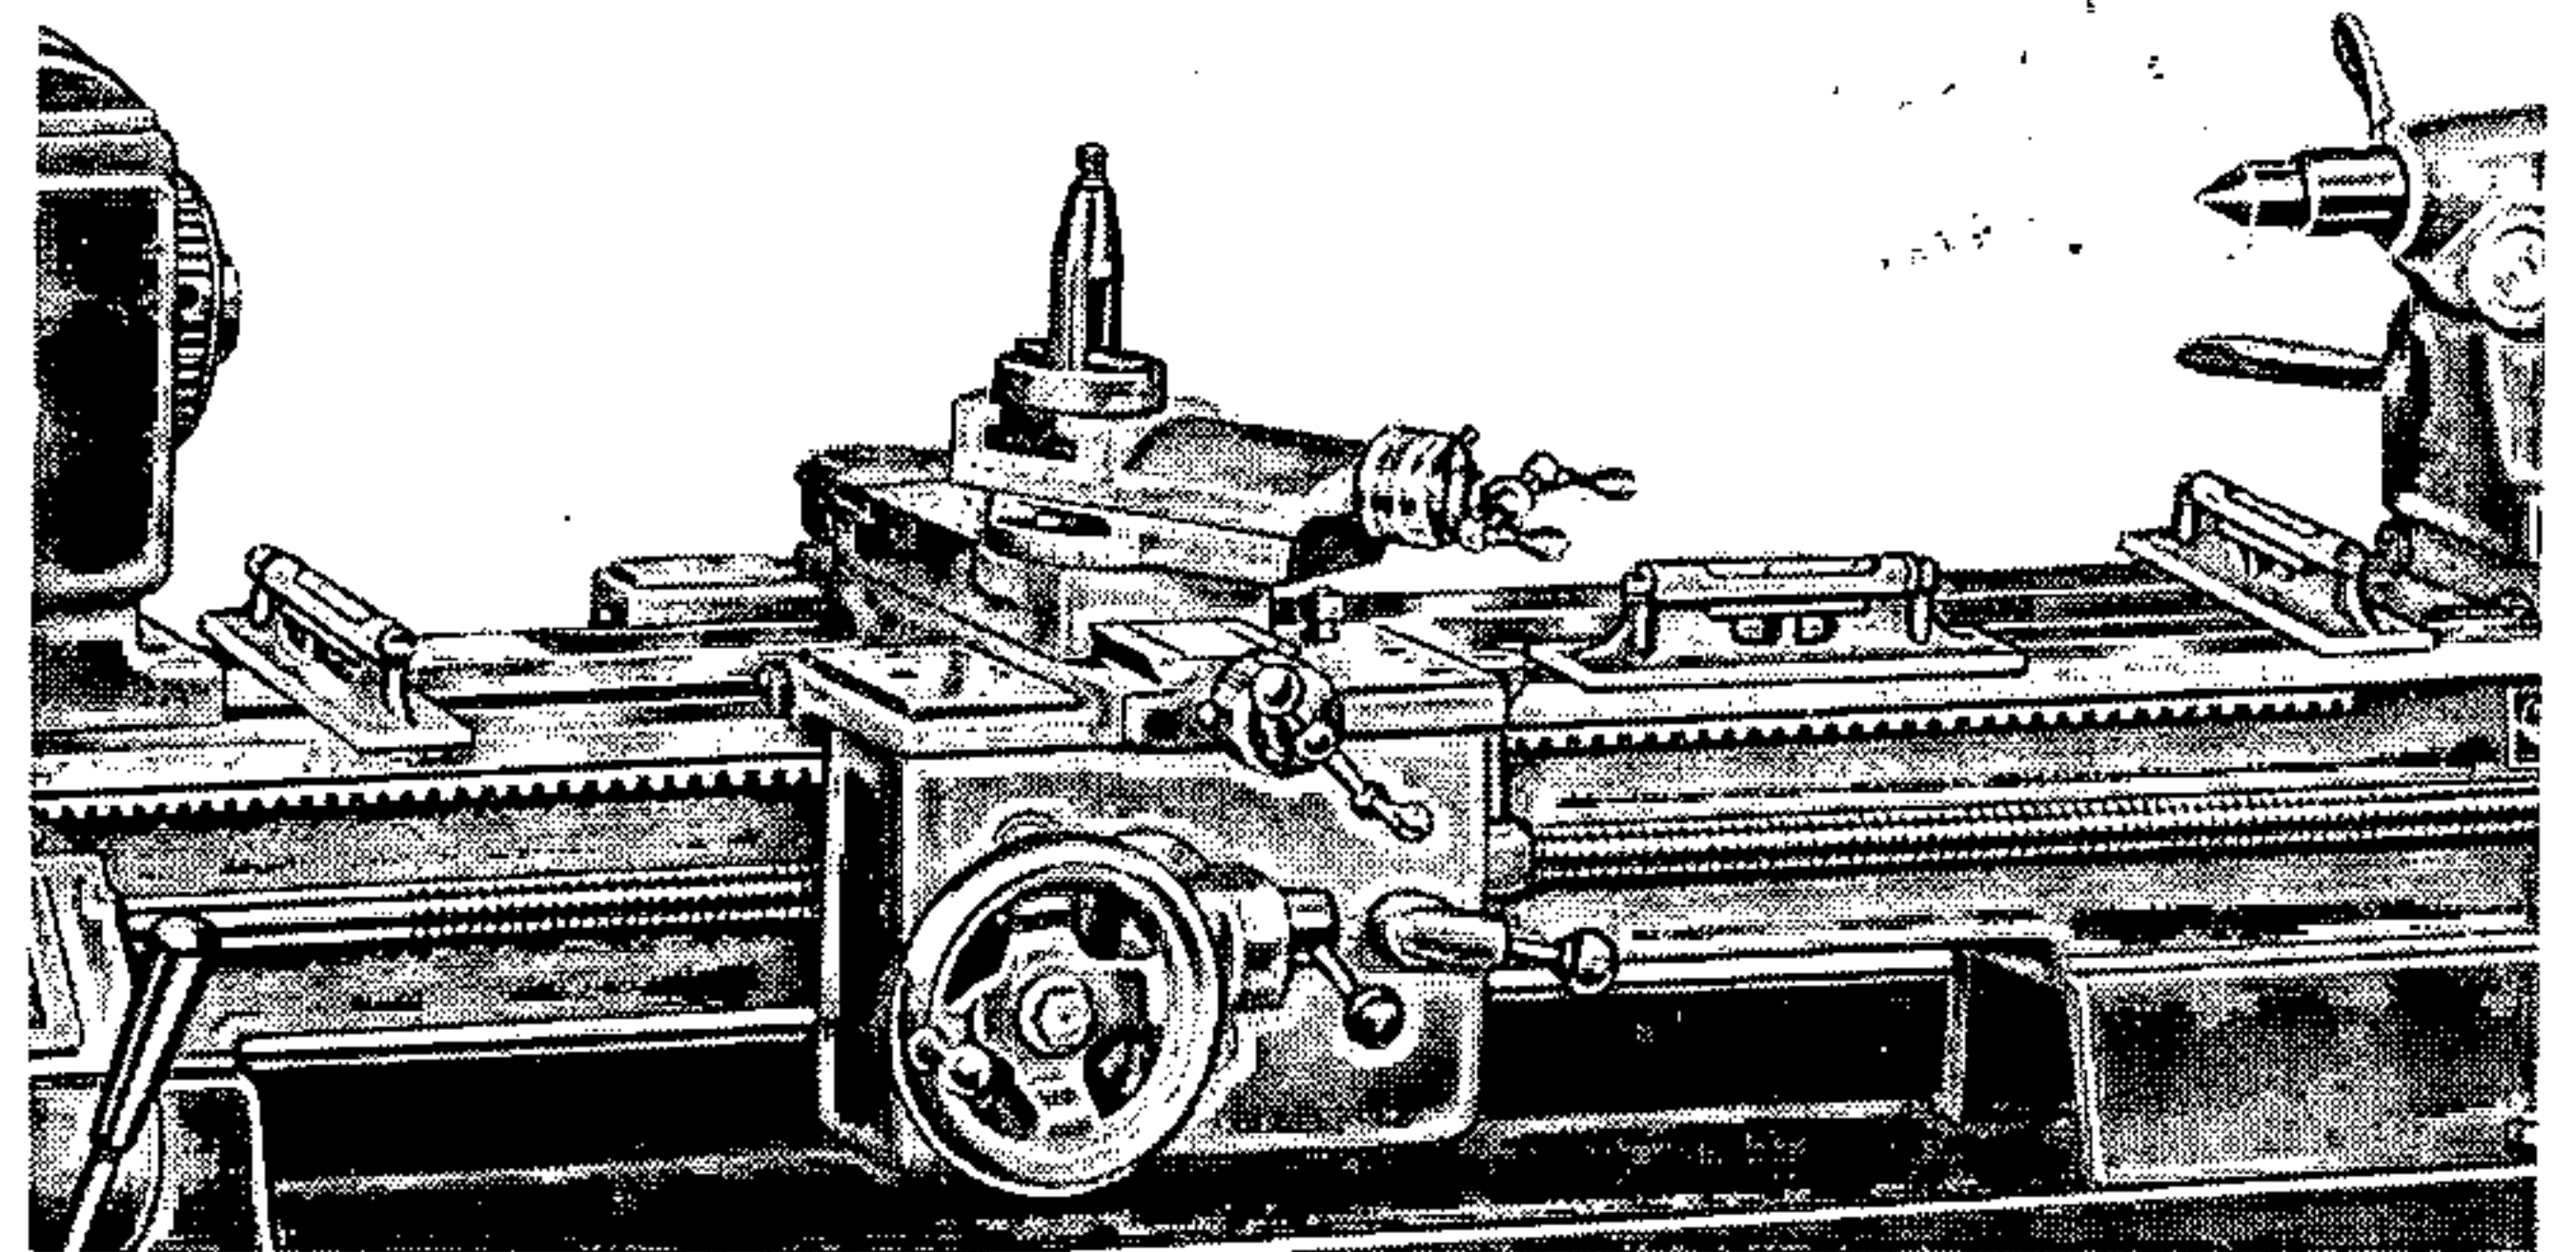

Fig. 4 Positions for checking the level reading on the lathe bed. (USE ONE LEVEL ONLY). Do not turn level end for end.
4. Both ends of the lathe bed — the headstock end and the tailstock end — must be checked with the level placed at right angles to the lathe bed — see Figure 4. Use an accurate square to align the level. Place the level on top of the V-ways — about 3" in front of the headstock and in front of the tailstock.